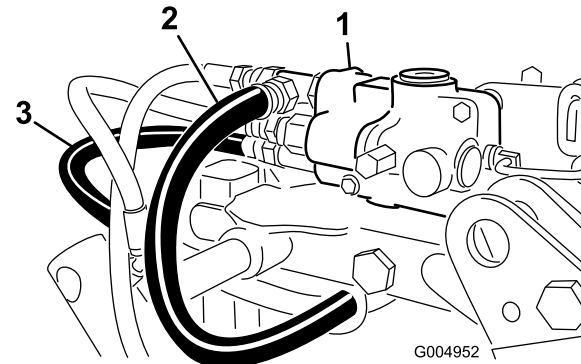

Figure 11
8. Route and connect the hydraulic pressure and tank hoses to the valve (Figure 11).